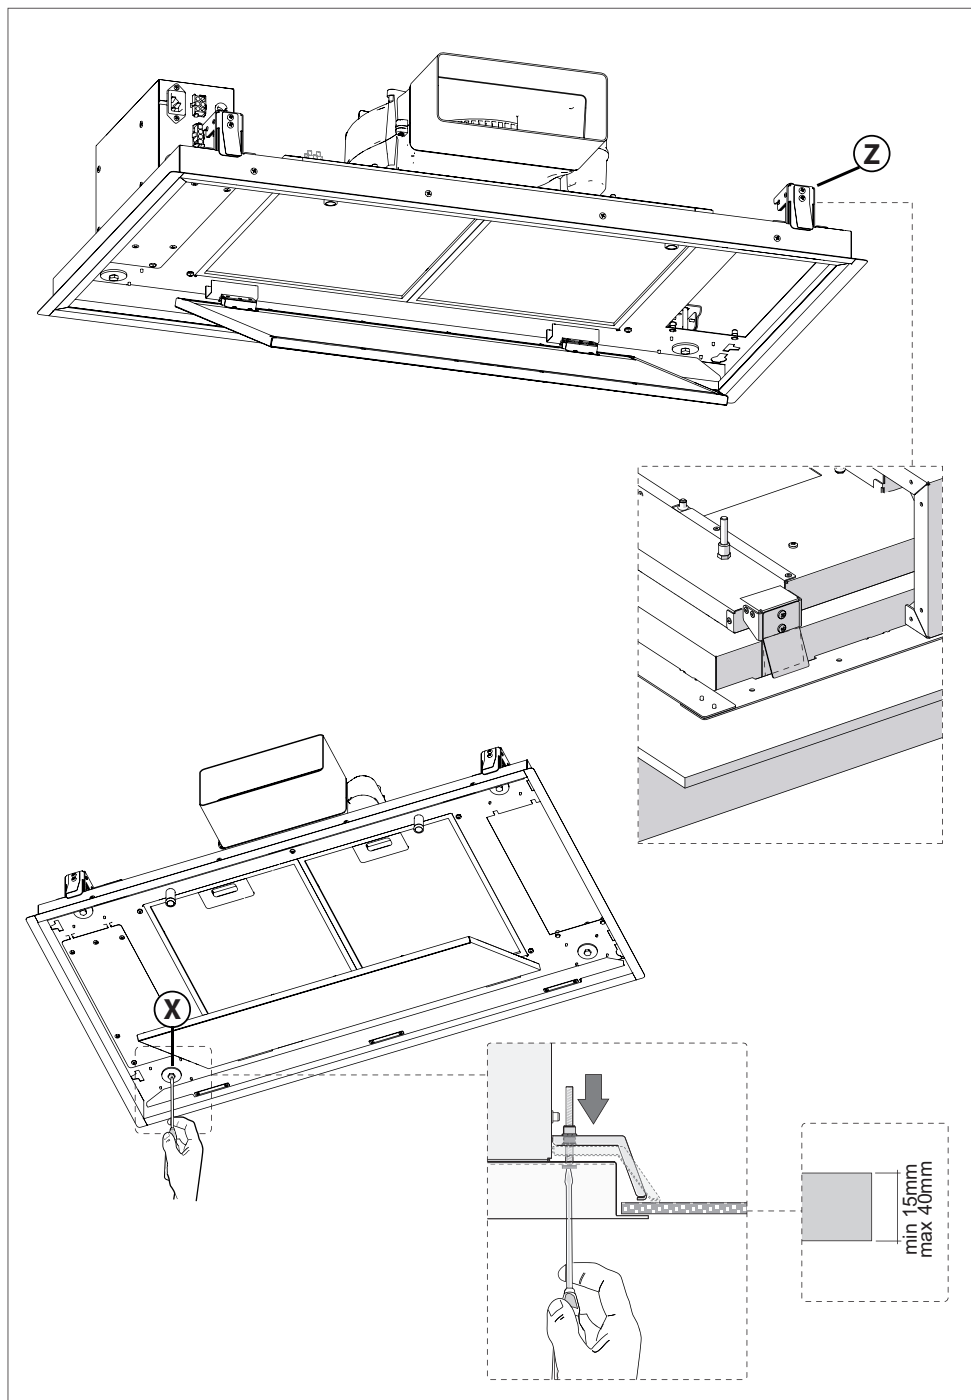

Fig.10
- Lift the hood body and insert it into the hole until the springs **Z** have passed completely and tighten the screws **X** (Fig.10).